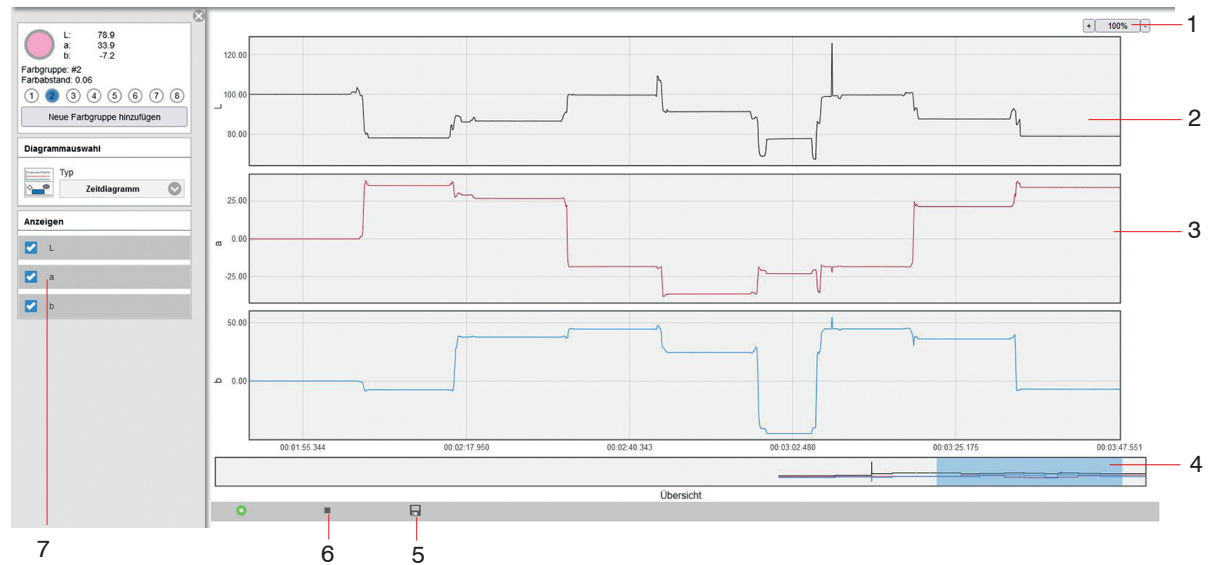

Fig. 32 Measurement chart and timeline menu
The Timeline, see Fig. 32, shows the chronological sequence of the currently tested color in the selected color space.
- 5 With the color inspection, you can record the color values from the last 10 min. and save them to a CSV file (time column and measured value column) with the *Save*, see Fig. 32 button.